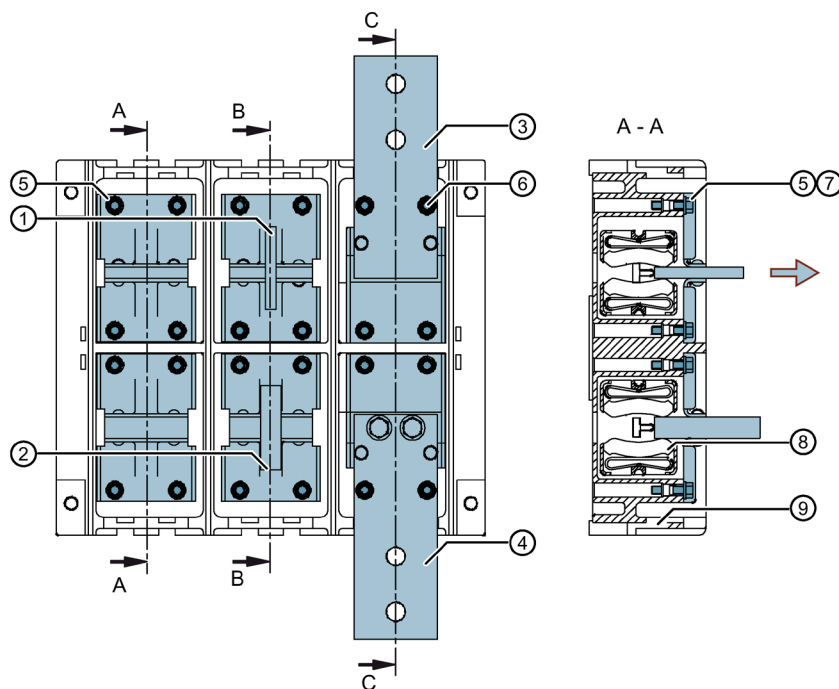

Fig. 1: Rear panel of guide frame, rear view, possible connection types
1. Unscrew any connection pieces. To do so, unscrew the fixing screws ⑤ or ⑥ and remove the connection pieces from the finger clusters ⑧. When doing so, make sure that you do not pull the finger clusters out of the rear panel ⑨.
2. Insert the new connection pieces as shown in Fig. 1 and Fig. 2 and secure them by means of the enclosed screws and strain washers (tightening torque: 8 ± 1 Nm). See Fig. 1 for the fixing screw assignments; see Fig. 2 for the position of the strain washers.